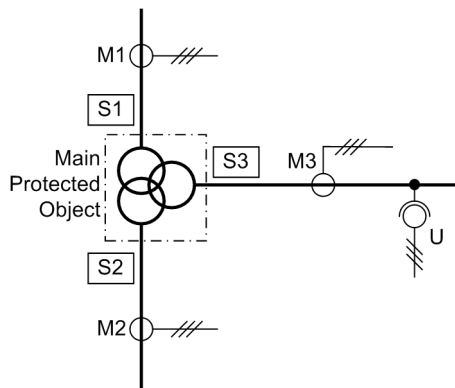

Figure 2-4 Example of a topology on a three-winding transformer
Of course, the number of sides can be equal to the number of measuring locations (but never greater). The example in Figure 2-4 shows a three-winding power transformer with one set of current transformers at each side. In this example: **No AssigMeasLoc = 3** and **NUMBER OF SIDES = 3**.
- **M1, M2, M3**, i.e. the **3** measuring locations are assigned: M1 to side S1, M2 to side S2, M3 to side S3. This corresponds to the examples in figures 2-4 and 2-6 2-7.